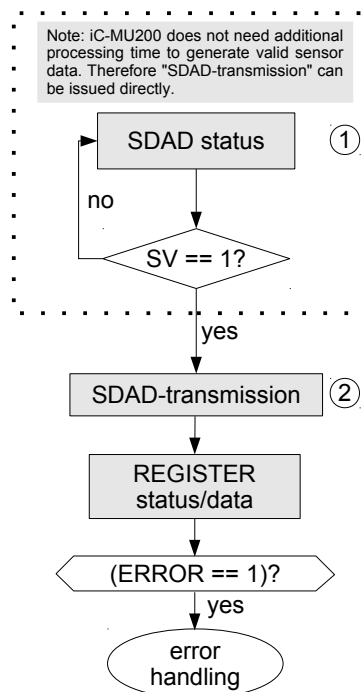

Figure 28: Example sequence of the commands SDAD Status/SDAD-transmission
Figure 28 shows the interaction of the two commands **SDAD Status** and **SDAD transmission**. It is not necessary to start each sensor data communication with the command **SDAD Status** (1). iC-MU200 has no processing time and can therefore directly output valid sensor data. Because of that the command sequence can start with **SDAD-transmission** (2). Following this, the command **REGISTER status/data** should be executed to detect an unsuccessful SPI communication.